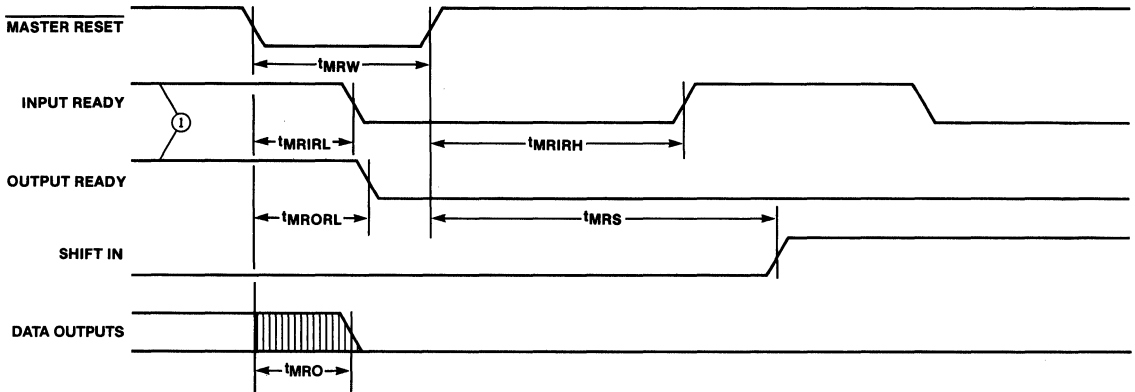

Figure 10. Master Reset Timing
After power up the Master Reset is pulsed low (Figure 10) to prepare the FIFO to accept data in the first location. Master Reset must be applied prior to use to ensure proper operation. When Input Ready (IR) is HIGH the first location is ready to accept data from the D_X inputs. Data then present at the data inputs is entered into the first location when the Shift-In (SI) is brought HIGH. A SI HIGH signal causes the IR to go LOW. Once data is entered into the first cell, the transfer of data in any full cell to the adjacent (downstream) empty cell is automatically activated by an on-chip control. Thus data will stack up at the end of the device (while empty locations will "bubble" to the front when data is shifted out). t_{PT} defines the time required for the first data to travel from input to the output of a previously empty device. When SI is brought LOW and the FIFO is not full, IR will go HIGH, indicating more room is available. If the memory is full, IR will remain LOW.